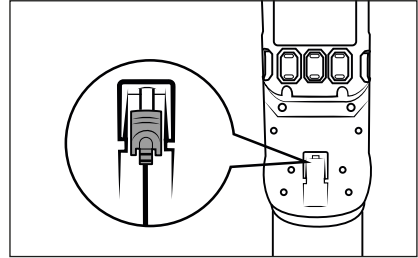

Fig. 8
- ▶ The vacuum cleaner can also be charged directly via the mains adapter **9**. To do this, remove the barrel plug **10** from the wall bracket **17** by turning it slightly and insert it into the charging socket **2** on the appliance (see Fig. 8).